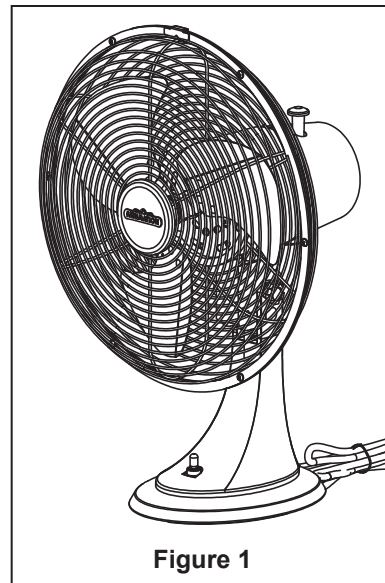

Figure 1
1. Carefully remove from package. (Figure 1)